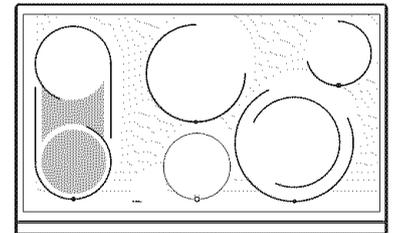
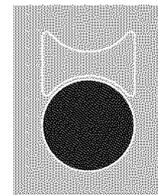
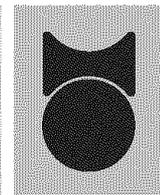

Figure 5
Figure 7
Figure 8
The cooktop is equipped with a “BRIDGE” surface element located at the left front and middle (See Figure 5) positions. The Bridge can be used when cooking with rectangular (like a griddle) or oval shaped cookware. The element will maintain an even temperature setting across both portions of the Bridge. If needed for normal cookware, the Bridge element can work like a single element without the Bridge (See Figure 7).
These words indicate the direction to turn the control knob when operating the Bridge element. “**Single**” indicates that only the single portion of the Bridge element will heat (Figure 7). “**Multi**” indicates that both the single and Bridge portions of the element will heat together (Figure 8). You may switch between these settings at any time during cooking with the Bridge element.
2. Push in and turn the control knob counterclockwise to heat the portion of the Bridge element for normal shaped cookware (See Figure 7) or clockwise for larger or rectangular shaped cookware (See Figure 8).